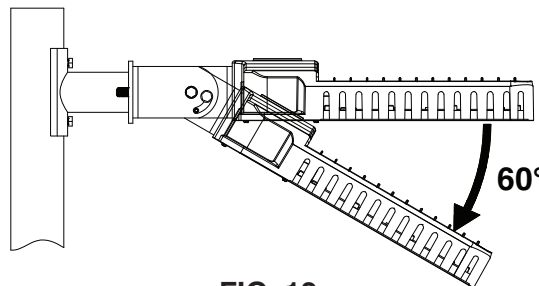

FIG. 12
- Loosen and adjust the adjusting bolts to the right angle, and the maximum is 60° (see **FIG.12**).